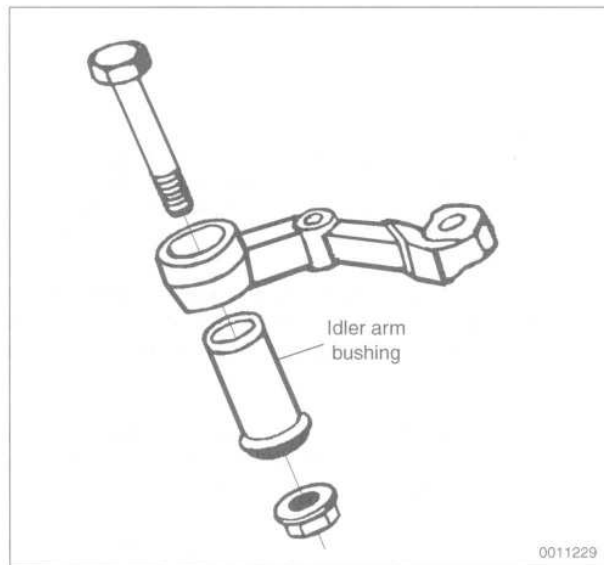

Fig. 7. Idler arm and bushing.
The idler arm is bolted to the subframe crossmember through a bushing. The bushing is subject to wear and is available as a replacement part. See Fig. 7.
4. If replacing the idler arm bushing, press it out using a press (use BMW special tool nos. 32 1 050 and 32 2 032 or equivalent press fittings). Be sure to press the new bushing in from the direction shown in Fig. 7.